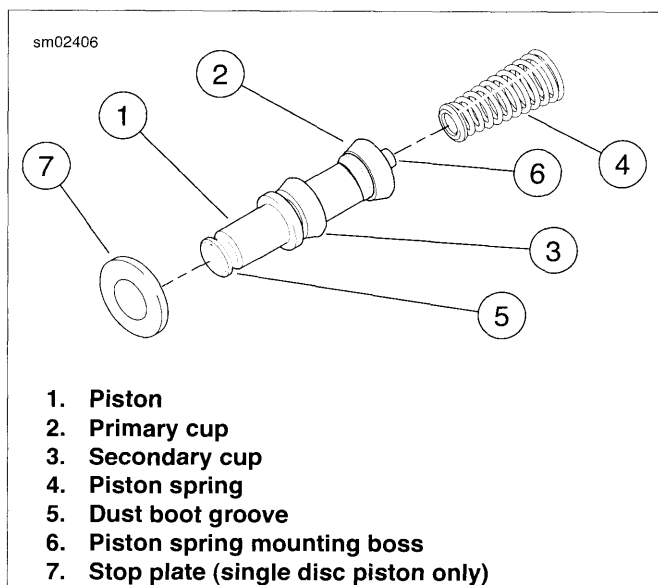

Figure 2-49. Front Brake Master Cylinder Piston (Typical-Single Disc Piston Shown)
3. See Figure 2-49. Install piston assembly into master cylinder.
- a. Press small end of piston spring (4) onto mounting boss (6) on piston (1).
- c. **Single disc piston:** Slide stop plate (7) down over end of piston.
- a. **Dual disc master cylinder:** Press down on piston (14) and install **new** retaining ring (15). Verify that retaining ring is fully seated in groove.
- b. **Single disc master cylinder:** Press down on piston (14) and stop plate (22), and install **new** retaining ring (15). Verify that retaining ring is fully seated in groove.
5. Install **new** dust boot (16). Large lip of dust boot fits down inside end of piston bore. Small lip of dust boot fits into groove in end of piston (item 5, Figure 2-49).
- a. Pivot hole in brake hand lever (18).
- b. End of piston (14).
7. Align hole in brake hand lever with hole in master cylinder bracket. From top of assembly, slide pivot pin (9) through bracket and hand lever.